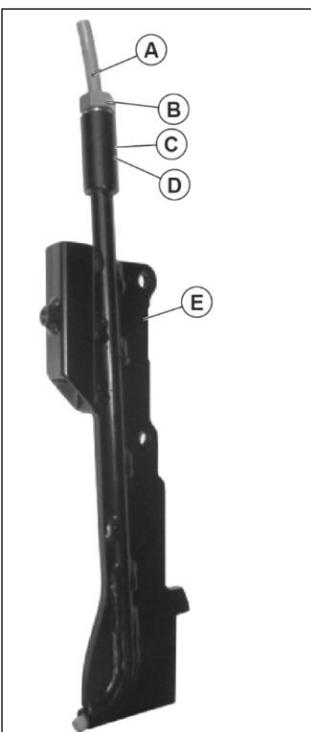

Fig. 4
1. O-ring (D)
2. Spacer (C)
3. Lock nut (B)
With the nut slightly loose, insert the tube (A) until it exits at the bottom part for about 5 mm. At this point, the nut is tightened with an. 17 wrench and consequently the tube is locked. In Fig. 4 you can see the cable guide properly, assembled. You can then proceed to secure the cable guide to the machine structure.